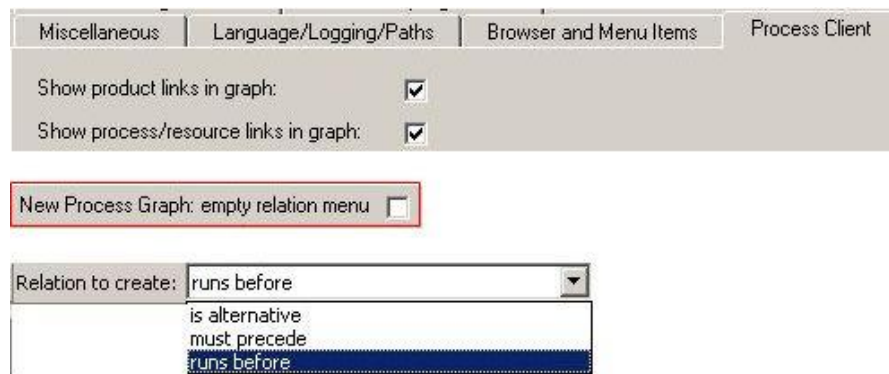

Figure 22: Combobox – Relations
- 1) To link processes, you first need to determine the relations. *Please refer to the Figure 22.*